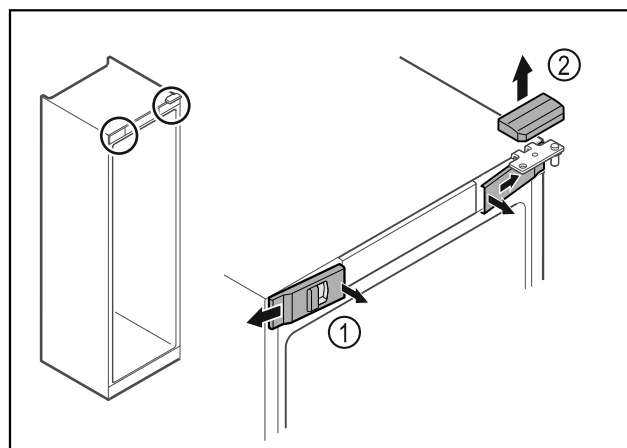

Fig. 14
- ▶ Unlatch the front covers Fig. 14 (1) on the inside and remove them sideways.
- ▶ Lift off the upper cover Fig. 14 (2).